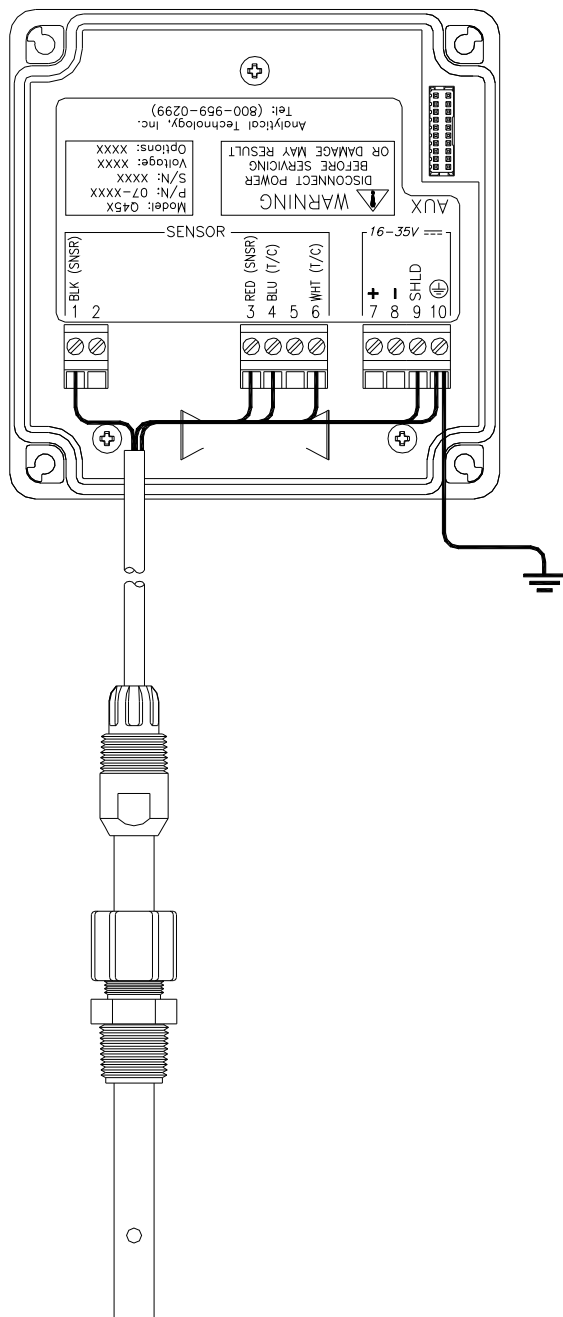

Figure 5 - Sensor Connections
FIGURE 5 - SENSOR CONNECTIONS	15
1. Use wiring practices that conform to all national, state and local electrical codes. For proper safety as well as stable measuring performance, it is important that the earth ground connection be made to a solid ground point from terminal 10 (Figure 5 - Sensor Connections).
Sensor connections are made in accordance with Figure 5. The sensor cable can be routed into the enclosure through one of cord-grips supplied with the unit. Routing sensor wiring through conduit is only recommended if a junction box is to be used. Some loose cable is needed near the installation point so that the sensor can be inserted and removed easily from the flowcell.